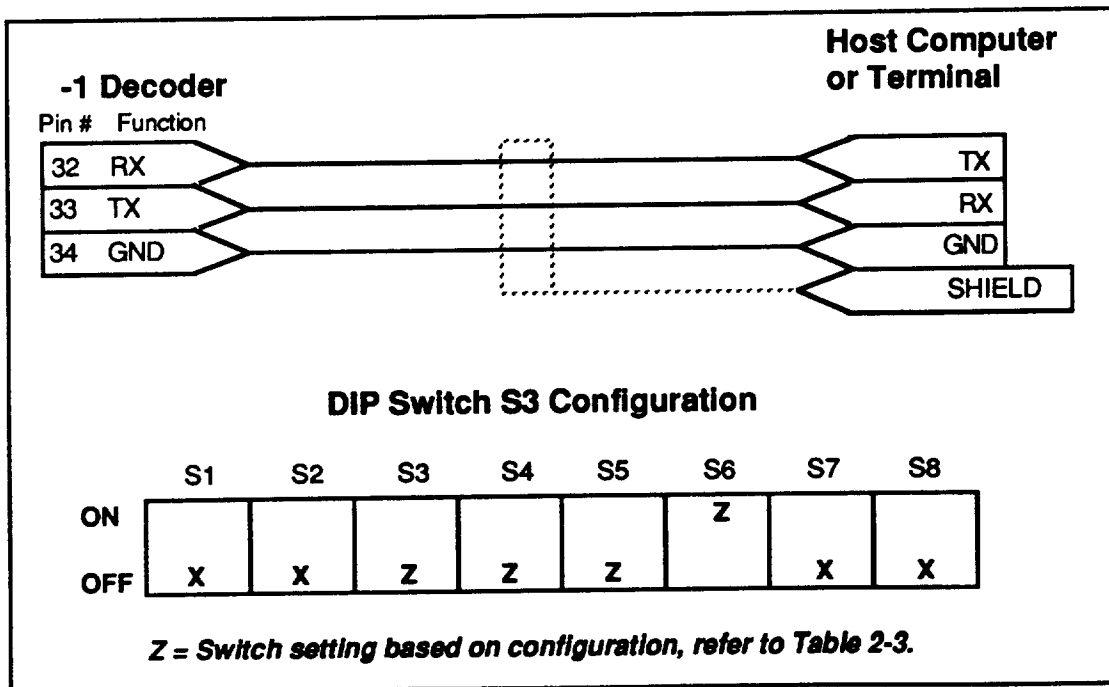

Figure 2-4. RS-232C Serial Communication (-1 Decoder)
This interface communicates serially (with ASCII characters). The 3-wire interconnect and proper DIP Switch settings are shown in Figure 2-4. *Do not change the jumper settings (maintain factory default settings).*
1. Be sure that power is not applied to the system. Remove the cover from the AR23 decoder and set the DIP switches (refer to Figure 2-4). Put the cover back on the unit before proceeding.
2. Connect the interface from the decoder box to the computer/terminal using the instructions shown in Figure 2-4.